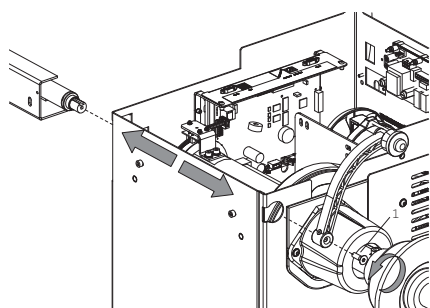

Fig. 15:
3. Loosen the fixing screw of the feeler (fig.15, pos.1);